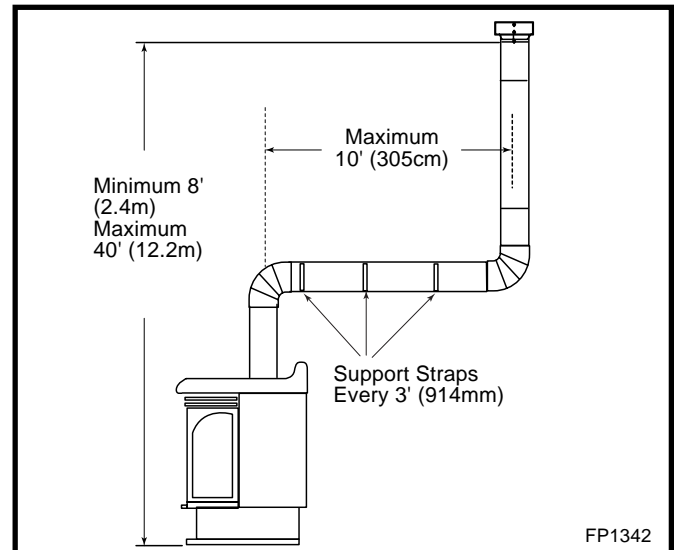

Fig. 23 Vertical through the roof requirements.
- Vertical installations up to 40 feet (12m) in height. Up to a 10 ft. horizontal vent run can be installed within the vent system using a maximum of two 90° elbows. (Fig. 23)